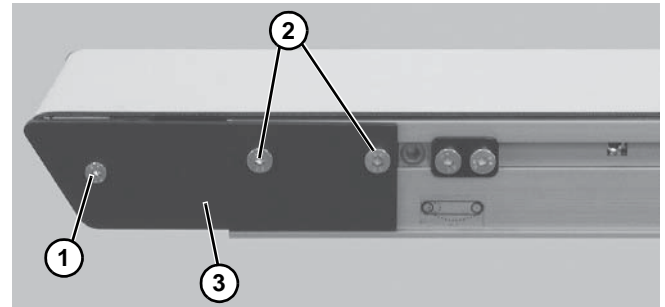

Figure 66
2. On one side of conveyor, use a 3 mm and 4 mm hex-key wrench to remove head plate fastening screws (Figure 66, item 1 & 2) and remove head plate (Figure 66, item 3).
4. After replacing bearings, re-install head plate (Figure 66, item 3). Use a 3 mm hex-key wrench to tighten one (1) fastening screw (Figure 66, item 1) to 30 in-lb (3.4 Nm). Leave two (2) fastening screws (Figure 66, item 2) loose for belt tensioning.